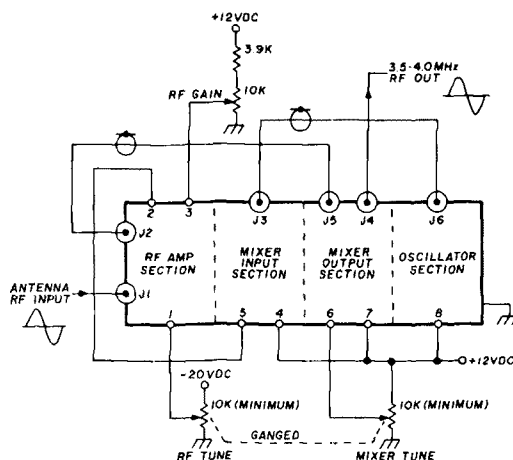

fig. 7. Application diagram. Agc control may be applied to pin 3 of the rf amplifier instead of the rf gain control (see reference 3).
Any of the indicated crystals may be used in the oscillator; however, let's assume that the 10.375-MHz crystal is used and temporarily mounted in the PC board oscillator section as previously discussed. By applying a low-level modulated 14-MHz signal to Q2 gate 1 with the beat oscillator signal applied to gate 2, and by adjusting the VVC (4) control voltage on the mixer coil, a signal envelope similar to that shown in fig. 7 should be seen while monitoring the mixer output coil link. Mixing linearity may be optimized by adjusting the temporarily installed 500-ohm potentiometer for both mixer gain and peak signal-to-local oscillator feedthrough ratios. Next, remove the potentiometer and measure its resistance. Select a fixed resistor of this value, which will be
Before installing the PC board and coil assemblies into the box, the interface connections should be temporarily installed as in fig. 7 and a low-level signal applied to each band. This will allow you to de-bug any wiring errors and initially adjust the coil slugs. A signal level of one or two millivolts may be required, depending on your oscilloscope sensitivity, for alignment. A typical modulated 14-MHz signal is shown in fig. 6 and indicates the envelope response with proper tuning and normal gain settings. The signal amplitudes and features may differ considerably if the mixer output is left unloaded. During my initial testing, a 51-ohm, 1-watt resistor was used across the oscilloscope input terminals, and the normal input capacitance was 40 pF.
Fig. 7 shows the typical interface for VVC control and power bus lines. The rf and mixer tuning controls may be ganged as indicated by adjusting the mixer tuning control for maximum signal output at 3.75 MHz then readjusting the coil slug to the center positions. Tracking between rf and mixer stages is not perfect because of device nonlinearity and frequency tuning ranges; however, for nominal 500 kHz bandwidths, these variations are minimal.